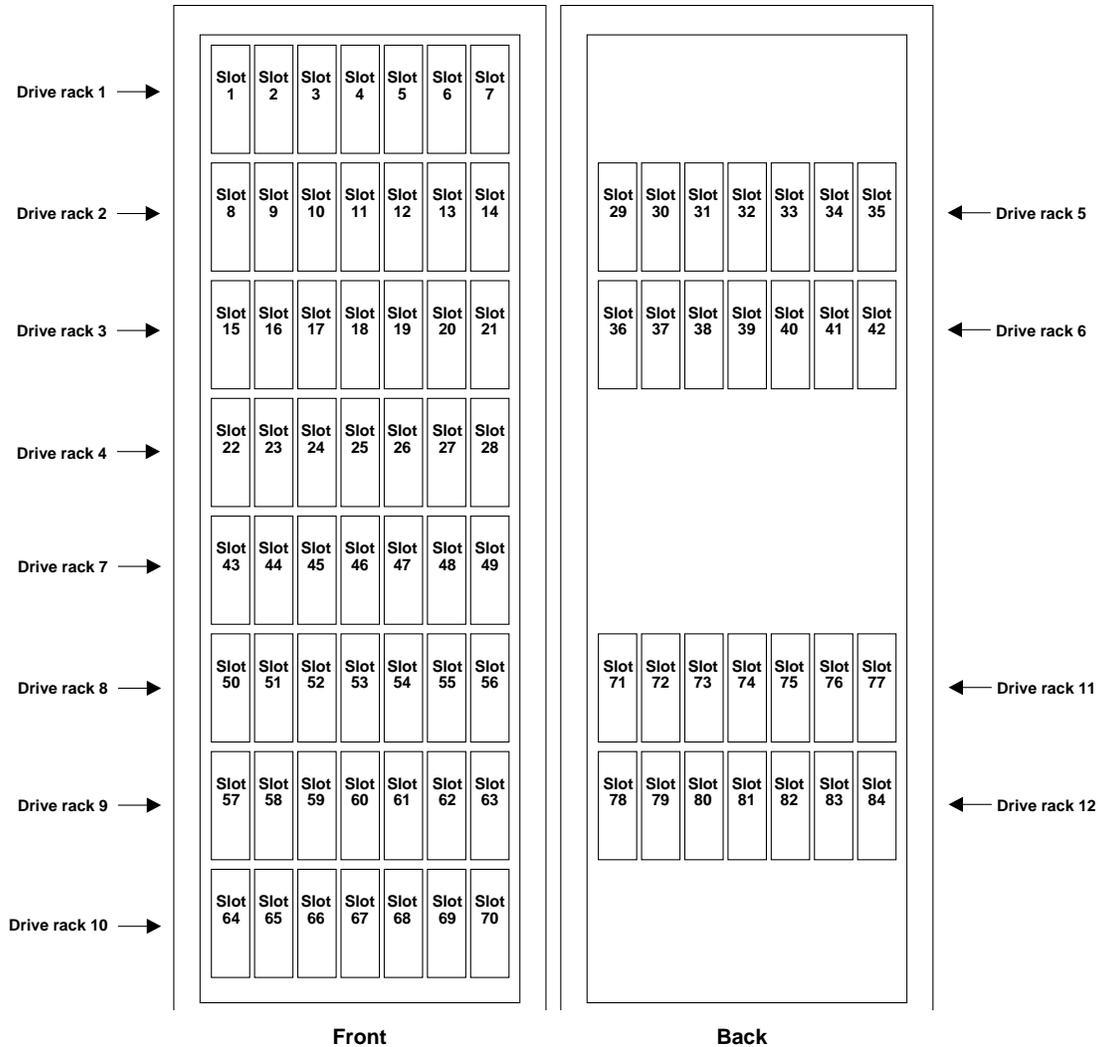

Figure 23. NS 7000/060 expansion cabinet drive slot numbering
Figure 23 shows slot and drive rack numbering for an NS 7000/060 expansion cabinet.
- ▲ Always place a disk drive in slot 1, which is the upper-left slot in front of the expansion cabinet (see Figure 23 on page 35 for the location of slot 1).